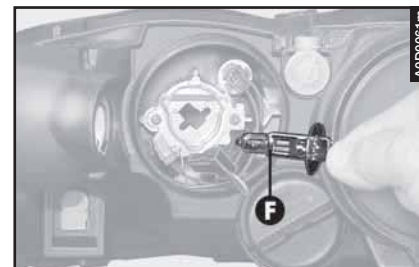

fig. 31
– Remove the bulb (**F-fig. 31**).